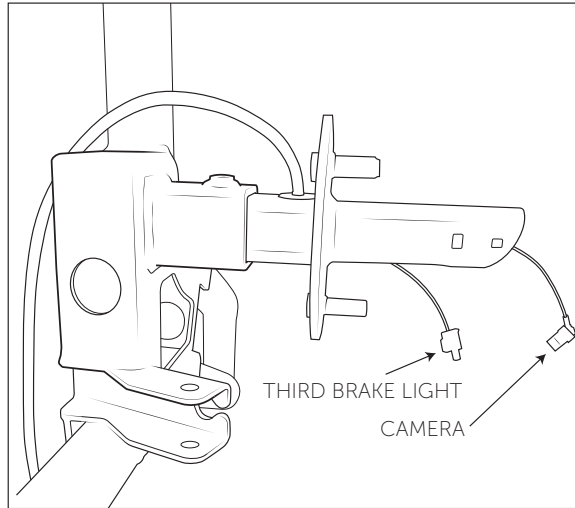

Figure 19
- Run wiring harness through the top hole in the square tube of the wheel mount. Route connection for the camera through the end of the tube and third brake light through the slot on the bottom of the tube (fig. 19). Push grommet into the hole in the square tube.